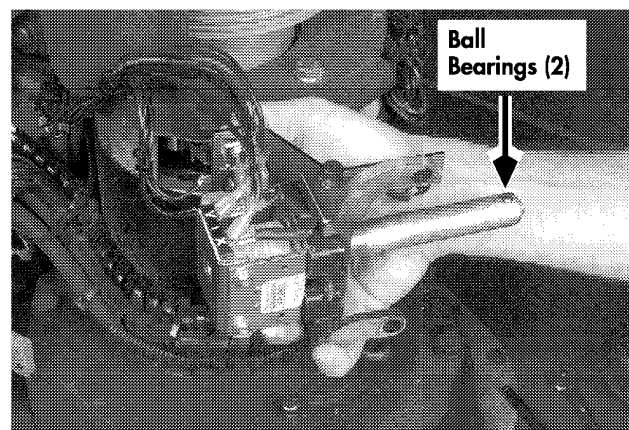

Figure 6-19: Removed Solenoid Mechanism
NOTE: Prior to removing the screws in step 2, two small ball bearings (Figure 6-19) will fall from the coast solenoid rod as you remove it from the canister. Place your hand under the canister as you remove the rod.
3. Remove the solenoid mechanism. See Figure 6-19.